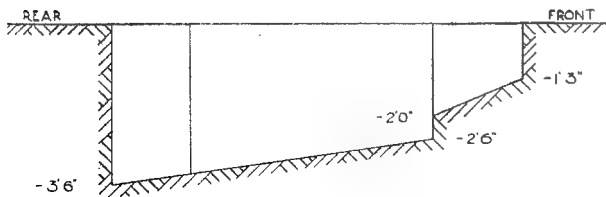

FIG 13—High angle gun pit
11. An example of a high angle gun pit is shown at Fig 13. It provides an arc of fire of 15 degrees on either side of the centre line.